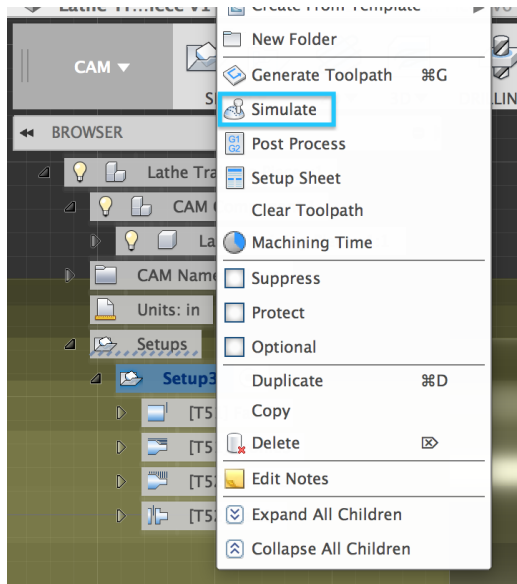

FIGURE 1.33: RIGHT-CLICK MENU OF A SETUP.
- Select **Simulate**, Figure 1.33.